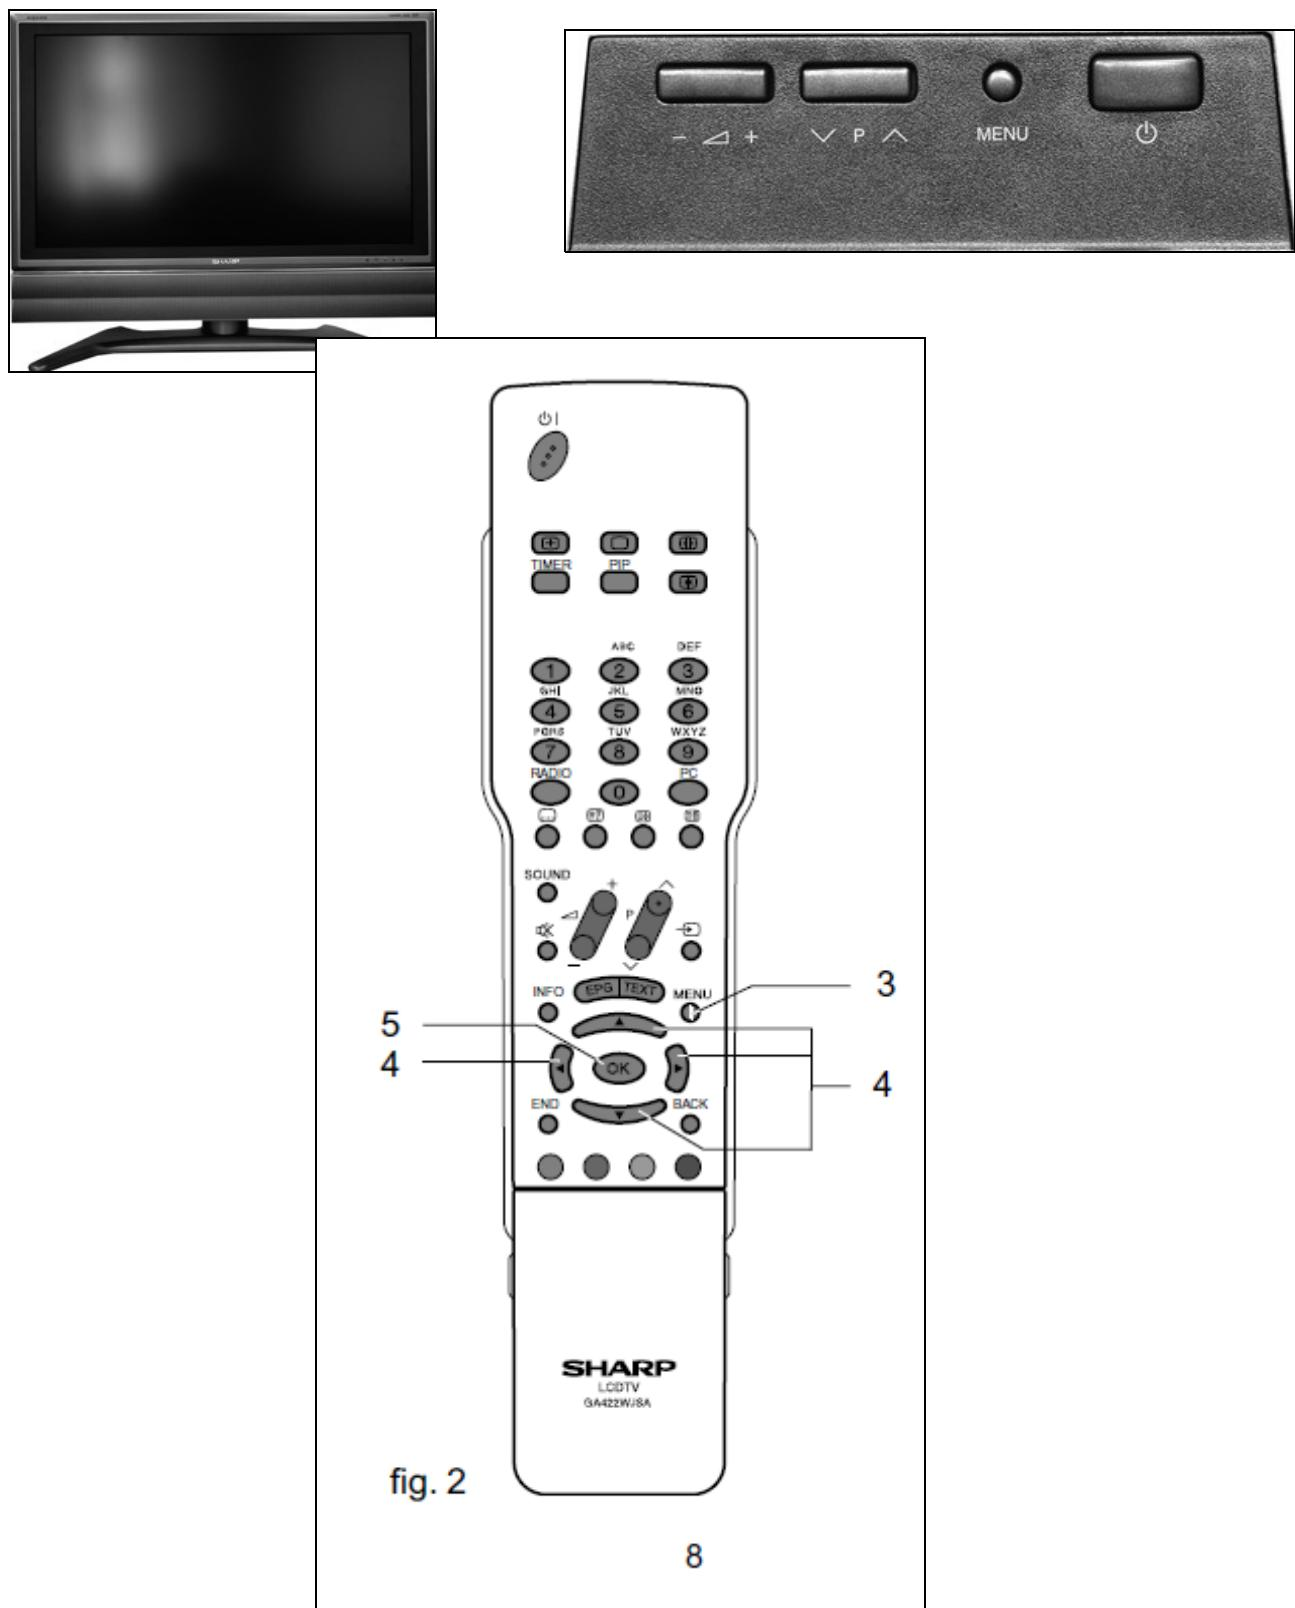

fig. 2
3. When service appears press the MENU button on the remote control within 1 sec (fig. 2, pos. 3).
4. Step with cursor buttons on remote control (fig. 2, pos. 4) through the service menu to change settings.
5. Each modification of any value has to be memorised with the „OK“ button on remote control (fig. 2, pos. 5).